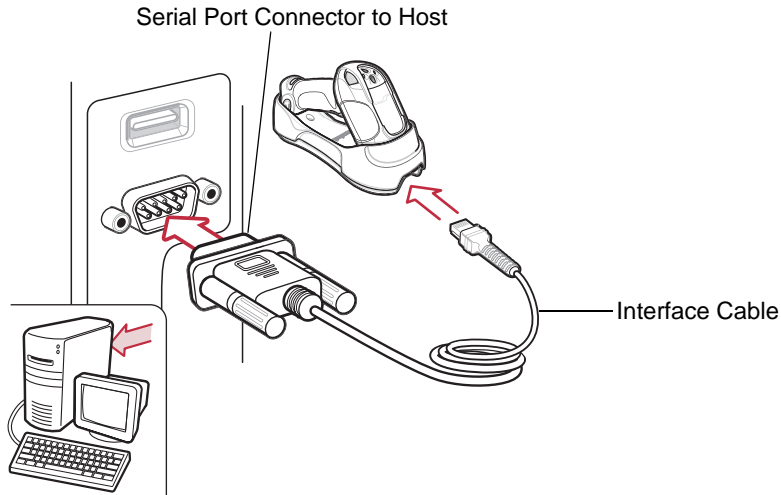

Figure 6-1 RS-232 Direct Connection
- ✓ **NOTE** Interface cables vary depending on configuration. The connectors illustrated in Figure 6-1 are examples only. The connectors may be different from those illustrated, but the steps to connect the scanner cradle remain the same.